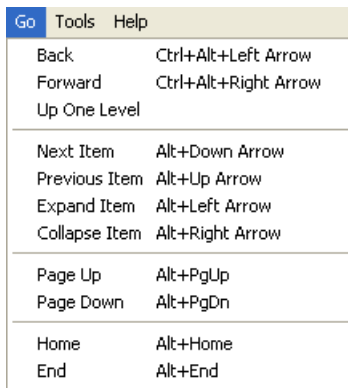

Figure 2-17 Menu bar - Go
- **Go:** It provides the functions needed for switching among different editing windows or different items, as shown in figure 2-17.